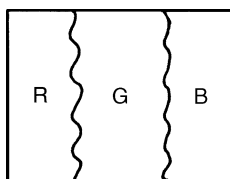

Fig. 1-4
8. Rotate the Purity knob, and adjust so that the green comes to the center of the screen as shown in Fig. 1-4.